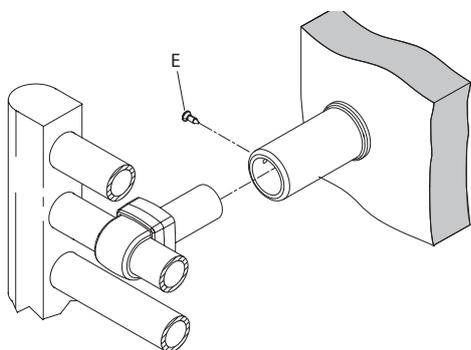

Fig. 5
- Lift the towel rail complete with the bracket assemblies and align with the outer bracket sleeves which were previously fixed to the wall. Insert the inner sleeve brackets into the outer sleeve brackets and fix in place using the position locking screws (E). The rail is then locked in place by rotating the pins a quarter turn - see Fig. 5.